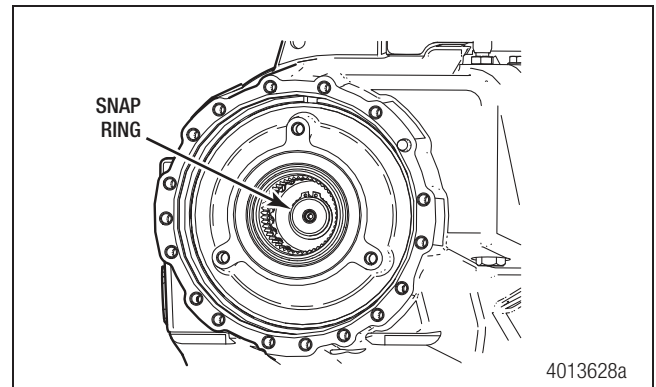

Figure 7.30
11. Hold the input shaft by hand so it does not fall out of place and rotate the transfer case in the stand to access the front case opening. Install the snap ring on the end of the input shaft. Figure 7.30.